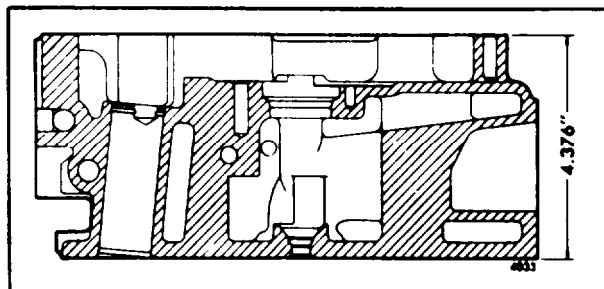

Fig. 4 - Minimum Distance Between Top and Bottom Faces of Cylinder Head
- c. If the cylinder head is to be refaced, remove the injector tubes prior to machining. Not over .020" of metal should be removed from the fire deck of the cylinder head. The distance from the top to the bottom (fire deck) of the cylinder head must not be less than 4.376" , as shown in (Fig. 4). Stamp the amount of stock removed on the face of the fire deck near the outer edge of the head, in an area not used as a sealing surface.